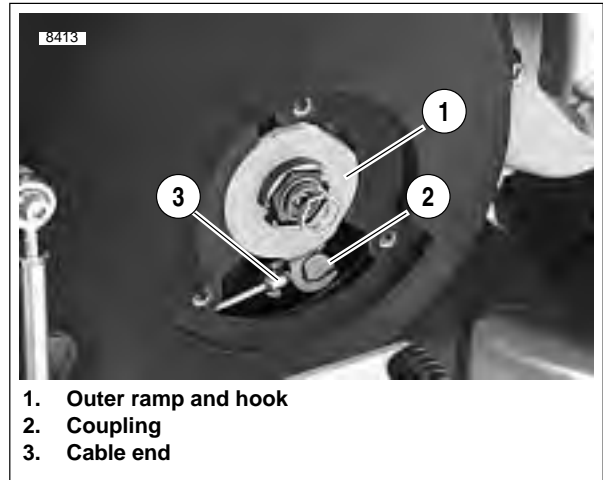

Figure 6-2. Clutch Release Mechanism
11. See Figure 6-2. Remove the outer ramp and hook (1) from the cable end (3) and coupling (2). Remove cable end from slot in coupling. See 6.3 CLUTCH RELEASE MECHANISM.